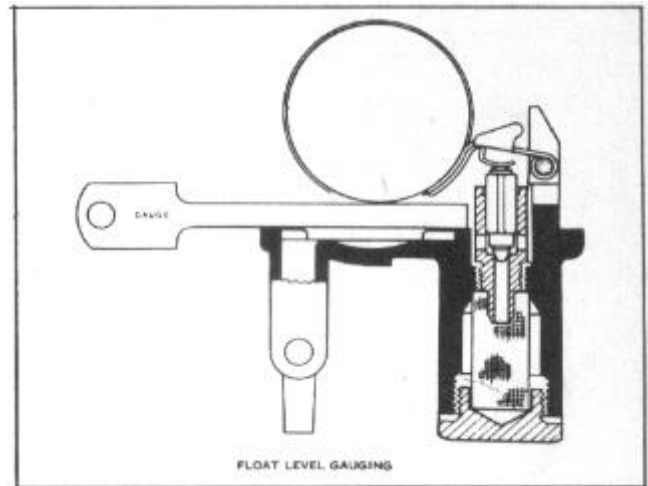

FIGURE 28
3. With the assembly held upside down, the distance from nearest face of float to cover should be $3/16$ inch on the 6 cylinder carburetor (647-5) and $13/64$ inch on 8 cylinder (648-S), Figure 28.
4. Adjust by bending lip (A) which contacts needle valve (B).
5. Draw on carburetor inlet. If leakage exists, replace needle valve and seat (B).